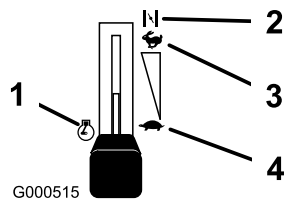

Figure 9
- After the engine starts, move the throttle lever to Fast (Figure 9). If the engine stalls or hesitates, move the throttle lever back to Choke for a few seconds. Then move the throttle lever to the desired setting. Repeat this as required.
- Move the throttle lever to Slow (Figure 9).